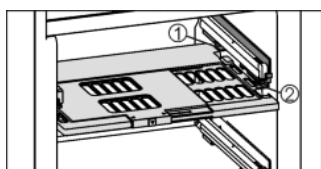

Fig. 19
- To insert the humidity control plate: Insert the cover mouldings of the plate into the rear holder *Fig. 19 (1)* from underneath and engage them in the holder *Fig. 19 (2)* at the front.